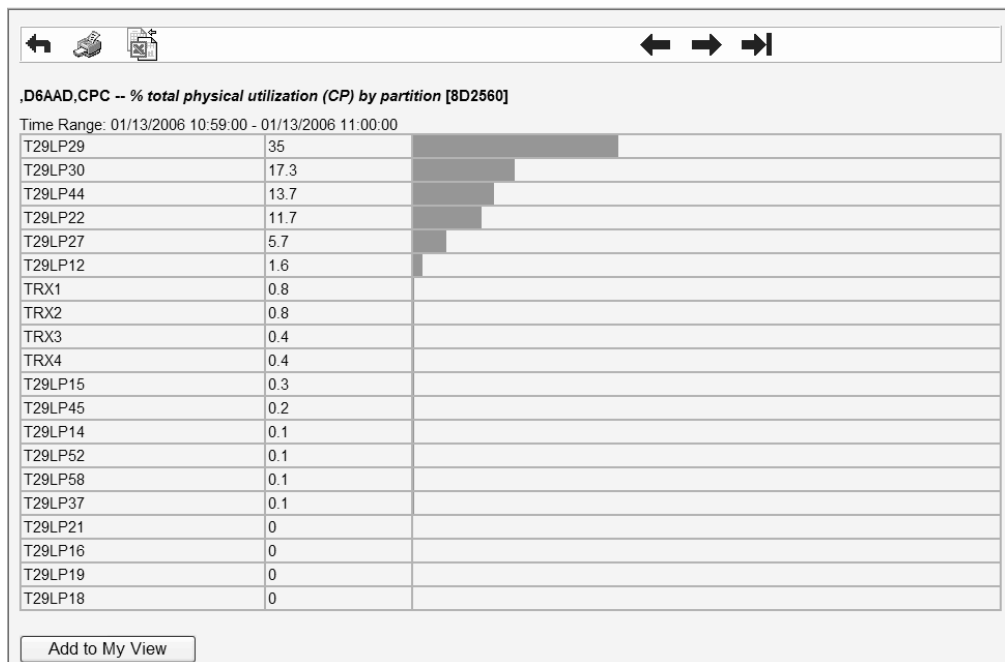

Figure 126. Total utilization of the processors by partitions
If you want to know the total utilization of the physical standard processors by the partitions in the CPC, click on *% total physical utilization (CP) by partition*. Clicking on this metric opens another view presenting the desired results, in our example, a list of partitions, showing the percentage of utilization for each (Figure 126 on page 232).